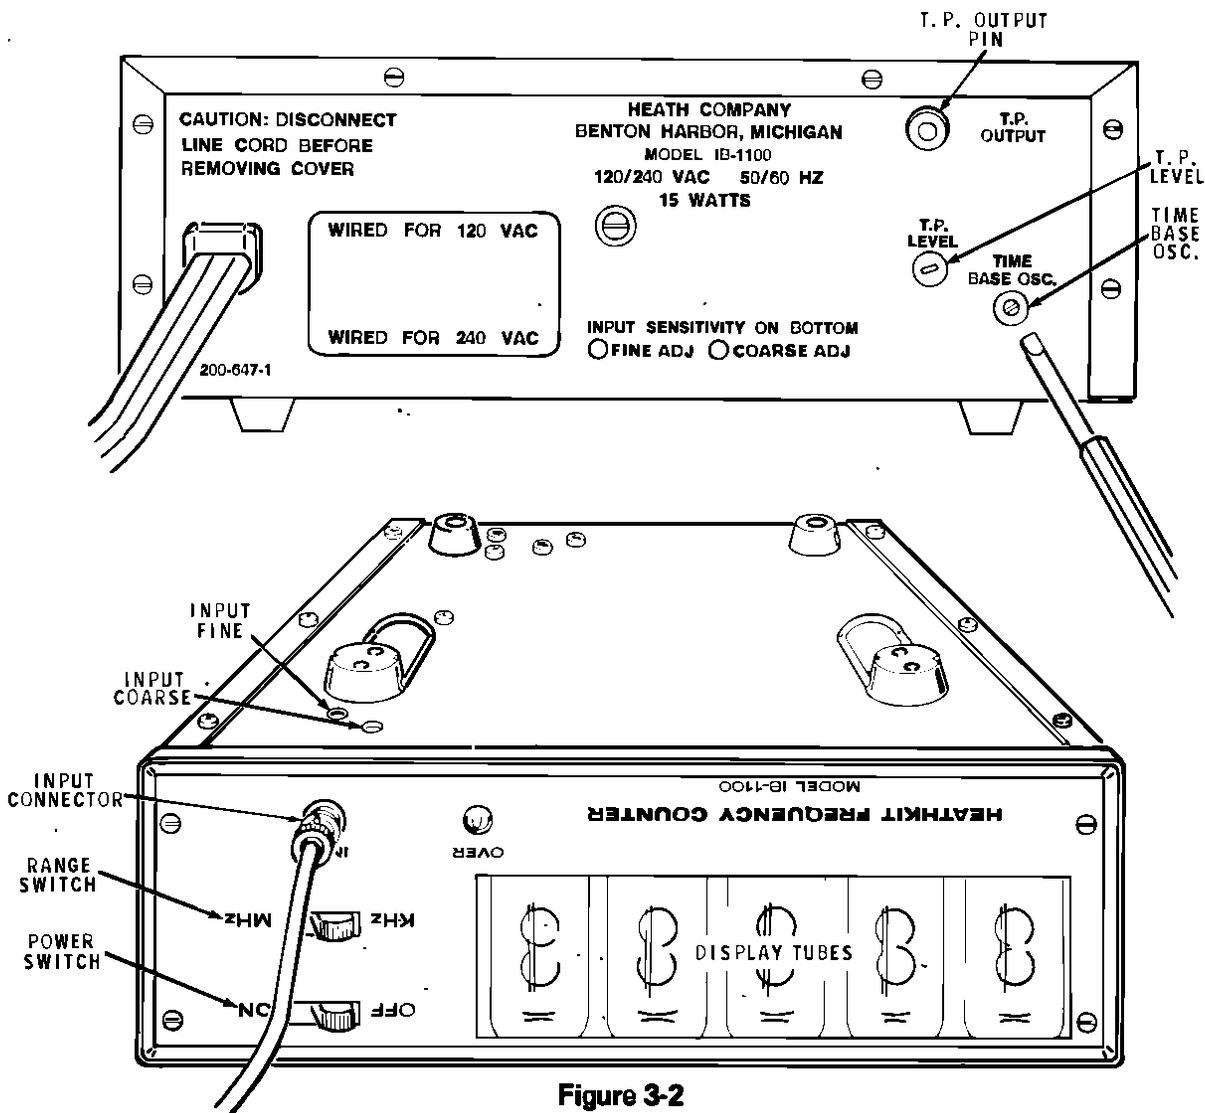

Figure 3-2
- ( ) When the pulsating tone is heard, refer to Figure 3-2 and insert the screwdriver end of the white alignment tool into hole TIME BASE OSC on the rear chassis lip and into the piston trimmer capacitor.
Refer to Figure 3-2 for the following steps.
- ( ) 4. If the Counter does not indicate this frequency, use your white alignment tool and adjust the INPUT COARSE control (see Figure 3-2 on Page 33) until the correct frequency is displayed.